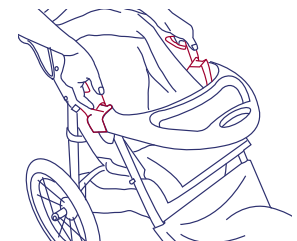

Figure 19.
- The stroller is folded by simultaneously depressing the safety lock on the right side and fold buttons located on the central joints. Please see figure 19. When the fold latches are released, the handle will begin to fall toward the floor. Release the fold buttons and press downward on the stroller handle until the stroller is completely folded. Secure the stroller in the folded position by hooking the fold latch, located on the right side of the stroller, over the rivet that protrudes from the frame. See figure 20.